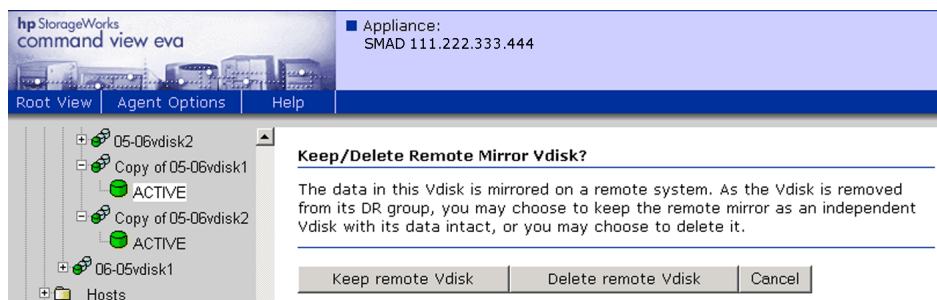

Figure 73: Keep/Delete Remote Mirror Vdisk page
- c. Click the **Remove member** tab. A message confirms your choice and asks if you wish to continue. Click **OK**. A Keep/Delete Remote Mirror Vdisk page opens (Figure 73).